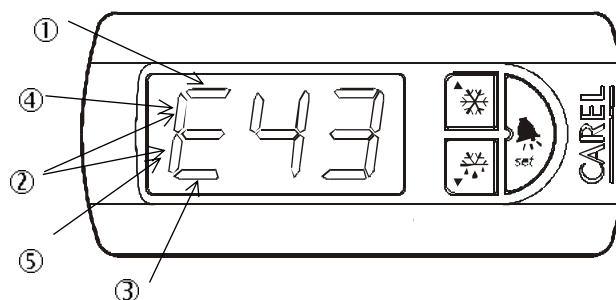

Fig. 8.3.4.1
- the parameter for the day is indicated by a segment (1 in Fig. 8.3.4.1) which appears together with the number of the event (t1,...t8) and is indicated by ① t1,... ① t8
- the parameter for the hours is indicated by a segment (2 in Fig. 8.3.4.1) and is indicated by ② t 1,... ② t8
- the parameter for the minutes is indicated by a segment (3 in Fig. 8.3.4.1) and is indicated by ③ t1,... ③ t8
**① t1,... ① t8: defrost event day**